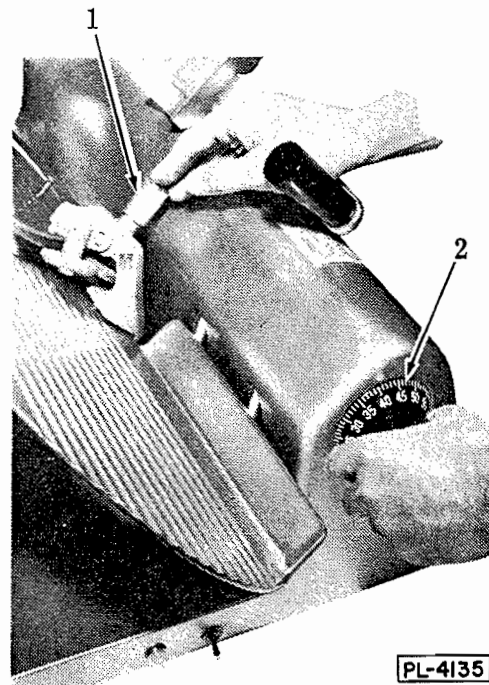

FIG. 5
- g. Turn the slice adjusting dial (2, Fig. 5) slowly to the right. This will bring the grinding wheel into contact with the beveled side of the knife.
- j. As soon as burr appears depress truing wheel by pressing on plunger (1, Fig. 5) with right hand as shown. Grind and true simultaneously for approximately 3 seconds.